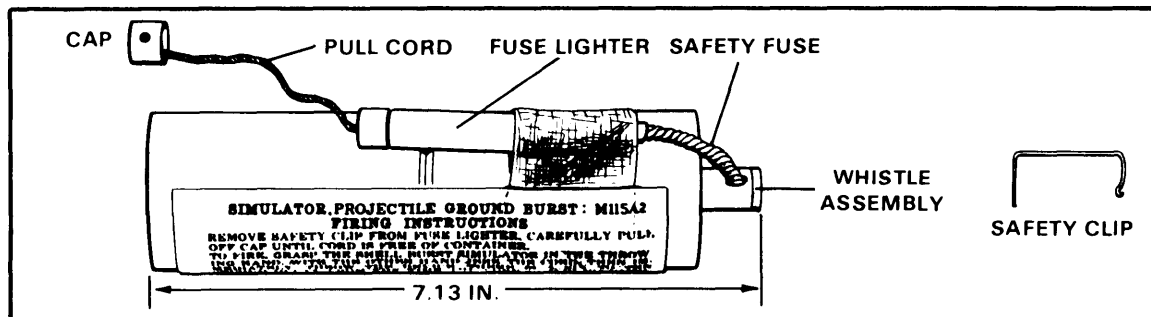

Figure 5-5. M115A2 simulator.
b. The ground burst simulator M115A2 (Figure 5-5) is used to create battle noises and flash effects during training. It produces a high-pitched whistle that lasts 2 to 4 seconds. The detonation produces a flash and loud report.